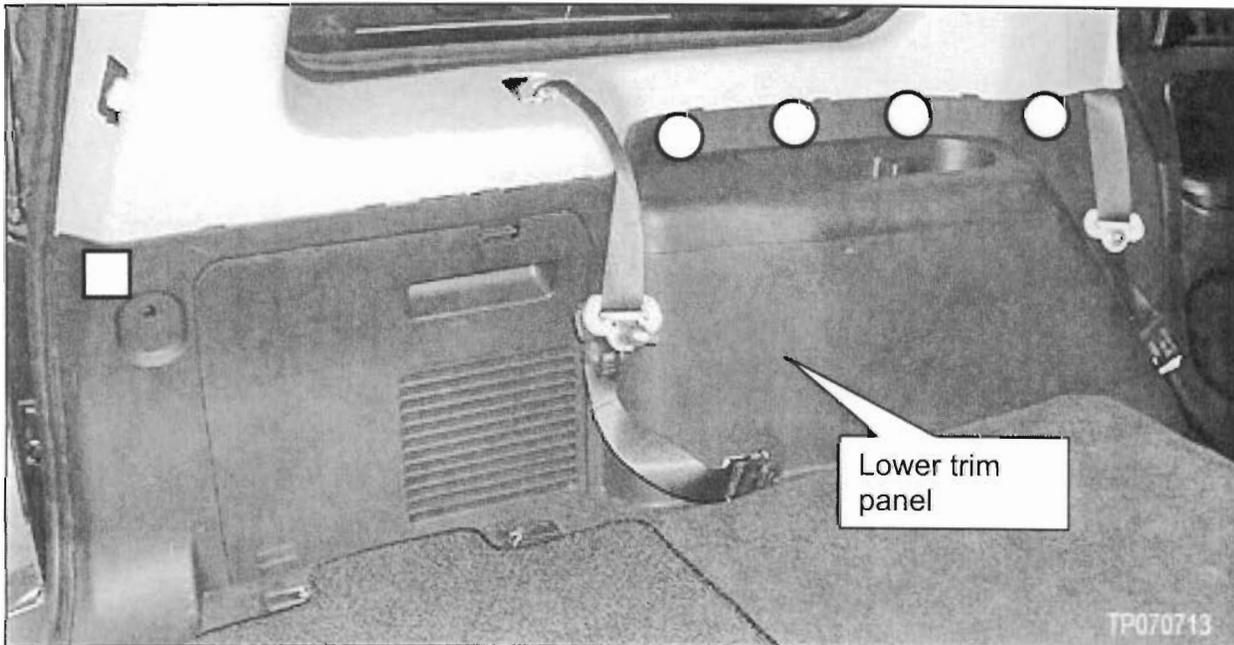

Figure 11
- Don't remove the panel, just pop loose the clips shown in Figure 11.